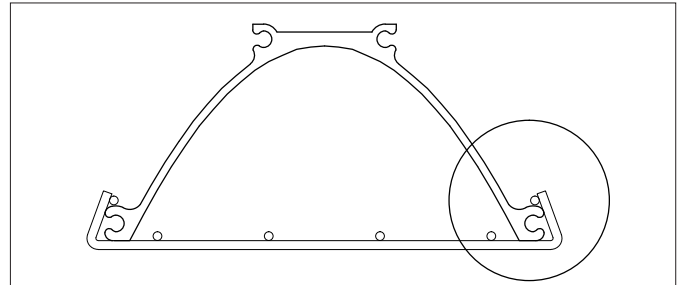

Figure 3 – Correctly installed wire guard
- Follow this procedure and Fig. 3 when installing the quartz tube or lamp:
- Wire guard (if required) to be installed per Figure 3, page 3. When installed, the wire guard should move freely on the reflector.